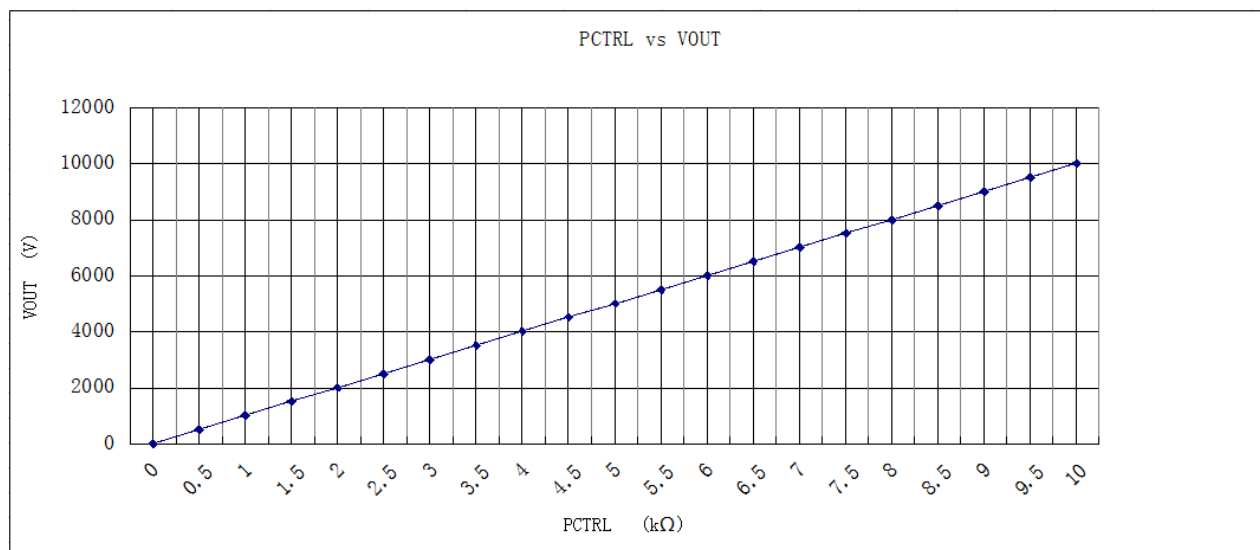

Figure 4. PCTRL VS. VOUT
5. HV adjustment: 10-turn potentiometer for adjusting output voltage. Rotate it clockwise to increase the output voltage, and the potentiometer resistance = the corresponding scale \times 10 Ω . For example, as Figure 4 shows, when the scale is 10, and the frame above the scale shows 1 (1k Ω), then the resistance = $10 \times 10\Omega + 1k\Omega = 1.1k\Omega$, and the like.